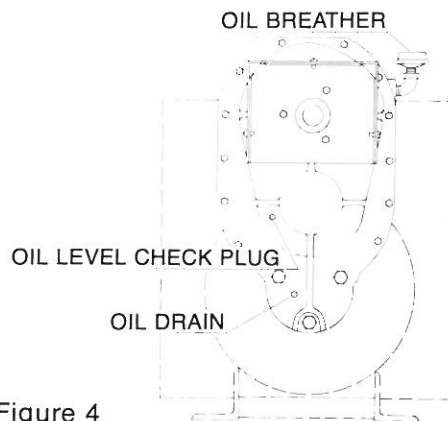

Figure 4
- Check gear case oil level. See Figure 4. Case should be filled with oil to plug marked "OIL LEVEL." Fill or remove oil as required.